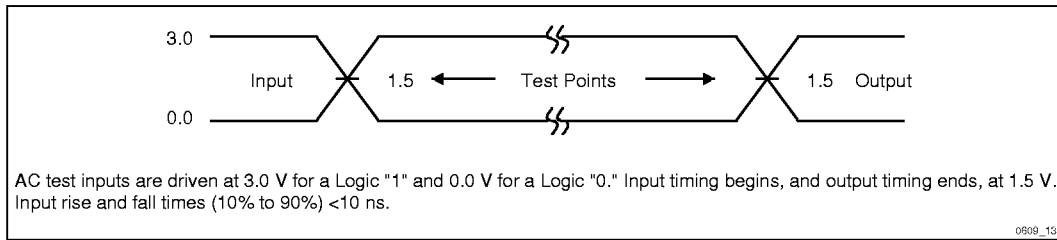

Figure 13. Transient Input/Output Reference Waveform for $V_{CC} = 5.0\text{ V} \pm 5\%$ (High Speed Testing Configuration)
5. See Figures 13 through 15 for testing characteristics.
- See Figures 13 through 15 for testing characteristics.